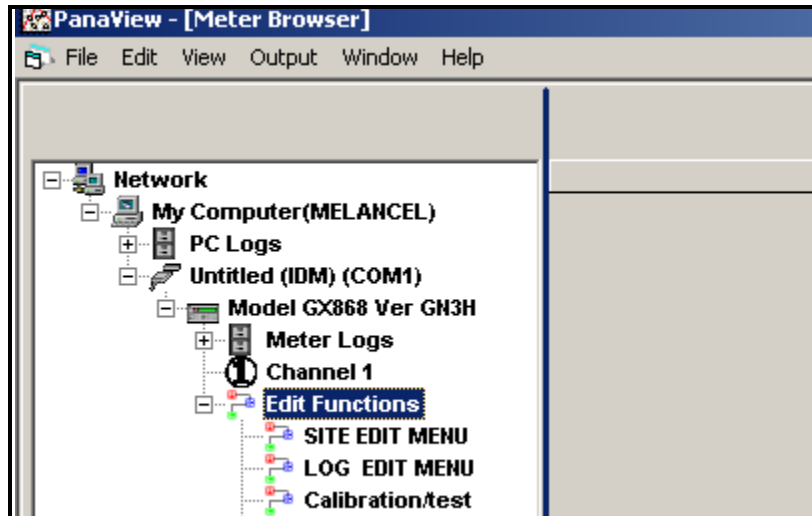

Figure 36: Meter Tree with *Edit Functions* Option
- From the meter tree, expand the *Edit Functions* option. The window now appears similar to Figure 36 below, with a list of available menus. The menus listed are those available on the meter.